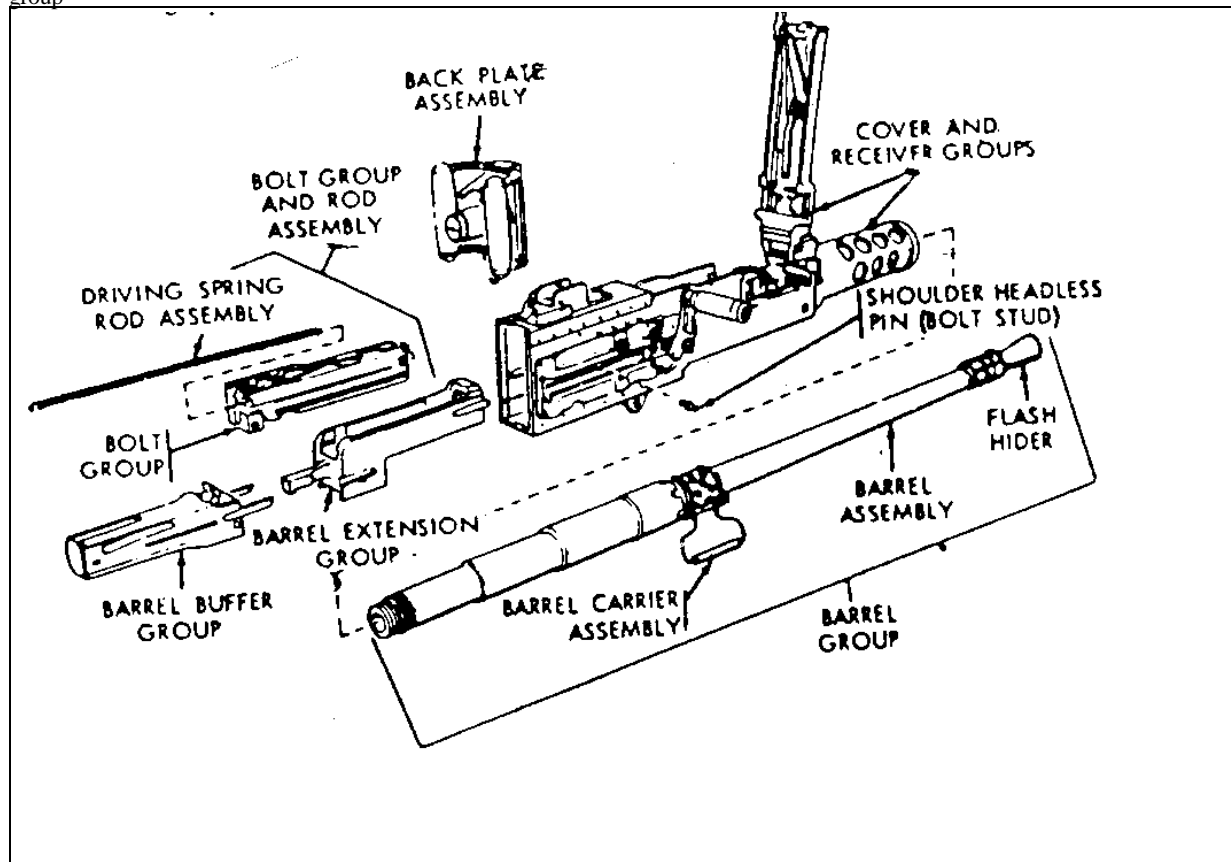

Figure 1. Six main groups
2. Six Main Groups of the M2 .50 Caliber Machine Gun (See Figure 1.)